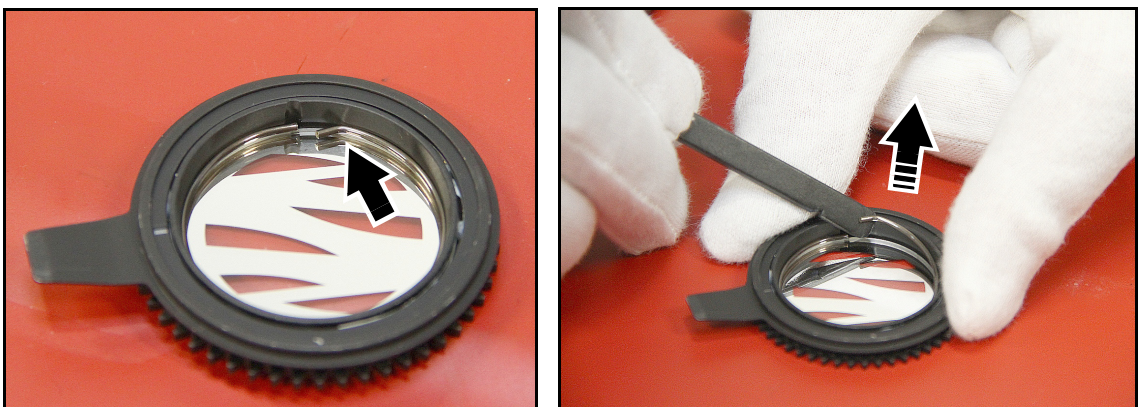

Figure 22: Removing a gobo from a goboholder
1. See Figure 22. Place the goboholder on a clean surface with the teeth side facing downwards. Note the position of the bend (arrowed) in the end of the gobo retaining spring. Using a plastic lever to avoid scratching the gobo, lever the end of the retaining spring out of the groove in the goboholder and lift the retaining spring out of the goboholder.